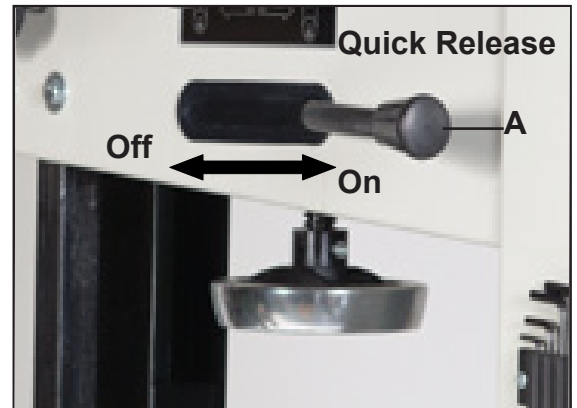
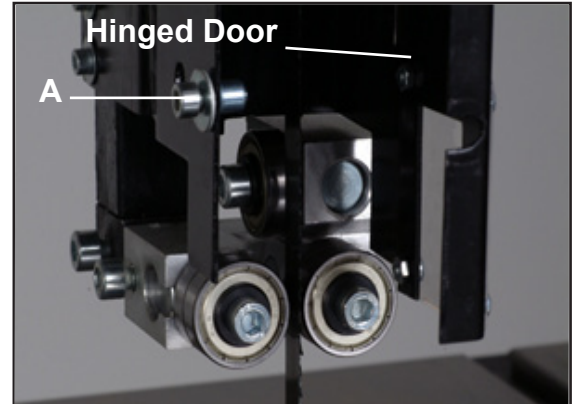
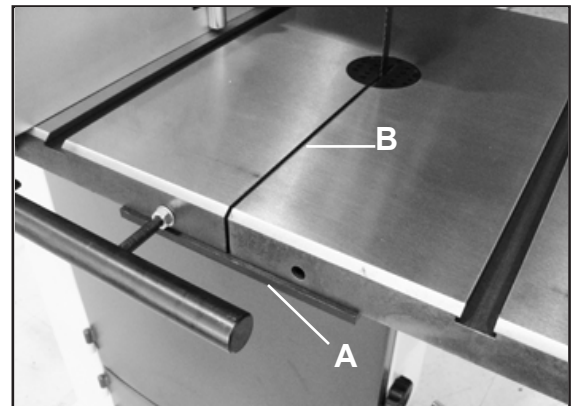

Figure 22
Figure 23
Figure 24
- b) Release the blade tension by moving the quick release lever (A-Fig.22) from right to left. Open the hinged door on the blade guard by loosening the hex screw (A-Fig. 23). Loosen then open the table leveling bar (A-Fig. 24).
- c) Remove the saw blade by feeding it through the slot in the table (B-Fig. 24), upper and lower blade guides and the slot in the spine of the machine, being careful not to cut yourself. Wear gloves for protection.
- i) Close the hinged door on the blade guard and tighten the hex screw (A-Fig.23). Close the table leveling bar and tighten (A-Fig. 24).